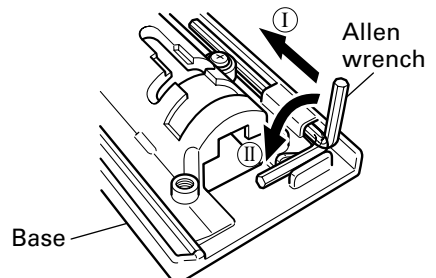

Fig. 17
- It is possible to house the axiliary allen wrench on the base (see Fig. 17).